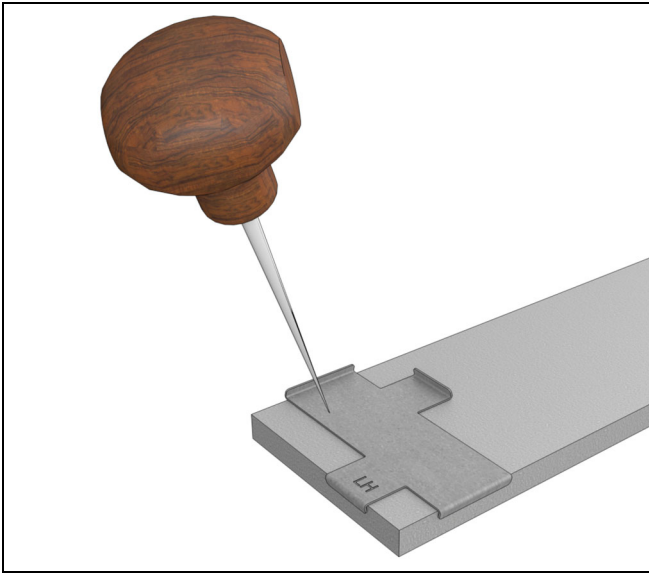
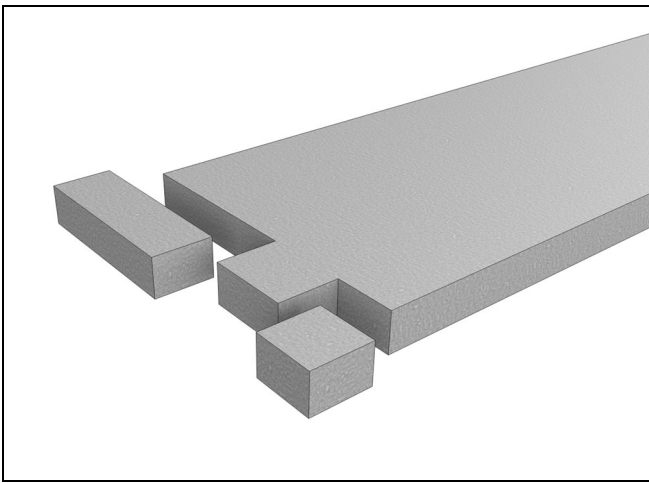

Figure 3
Figure 4
2. Use the template included in the job box to mark and fabricate end cuts on the steel. See Figure 3 and Figure 4.